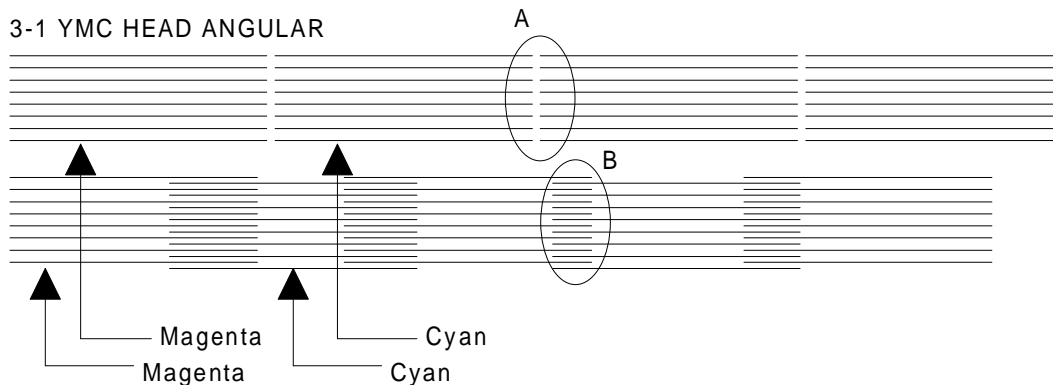

Figure 4-9. Color Head Angle Confirmation Sample
5. In Figure 4-9, pay attention to the position of A and B while you reset the left angular spacer. The replacement procedure is explained beginning in step 6.
8. Remove the rubber cap covering the head screw at one side of color ink cartridge. Then loosen (but do not remove) 3 screws. (Refer to the Figure 4-9.)